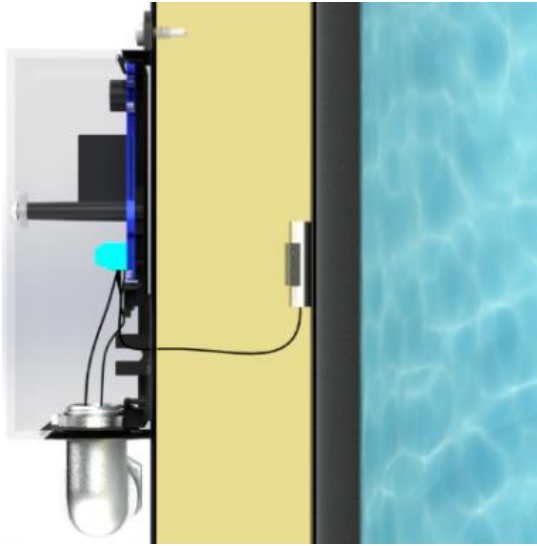

FIGURE 3
- ❑ Run all 24VAC wiring through the square notch on the bottom right of the ETC102 case (See FIGURE 3 on page 9).
- ❑ Connect thermostat wiring to the switch or TR+TW. (See FIGURE 3 on page 9 and FIGURE 4 on page 10).
- ❑ For controlling zone valves, multi-zone controllers, and switching relays, follow applicable wiring diagrams for low voltage thermostat circuits (See FIGURE 3 on page 9).